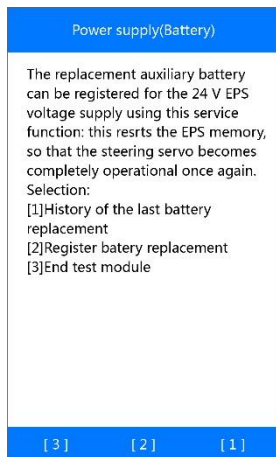

Figure 5-65 Sample Auxiliary Battery Functions
- 1) Press **[2]** to register the auxiliary battery replacement (Figure 5-65).